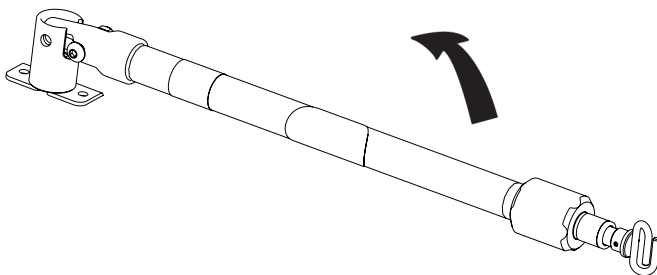

Figure 69: Two-Stage I.V. Pole Storage Position
1. Lift and pivot the pole from the storage position and push down until it is locked into the receptacle (A).
2. To raise the height of the pole, turn the lock actuator (B) counterclockwise and pull up on the telescoping portion (C) of the pole to raise it to the desired height.
3. Turn the lock actuator (B) clockwise to lock the telescoping portion in place.
4. Hang the I.V. bags on the I.V. hook (D).
5. Turn the lock actuator (B) counterclockwise and slide section (C) into the bottom tube.
6. Turn the lock actuator (B) clockwise to tighten.
7. Lift up and pivot the pole down into the storage position (see Figure 69).